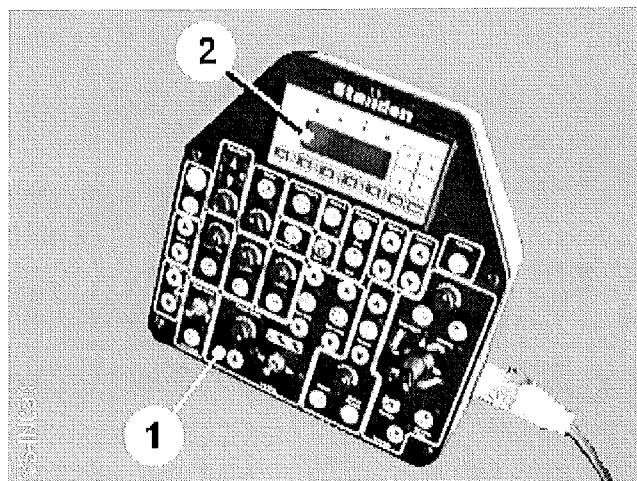

Fig 34
Control for the major functions of the Standen Vision XS are provided electronically by the switches mounted on the in-cab control box (item 1, fig 34) switching the valves on the harvester via a CAN-Bus control system. The functions can be monitored from the control box display screen (item 2, fig 34). Setting and monitoring can be carried out by following the instructions in the Control System Section.